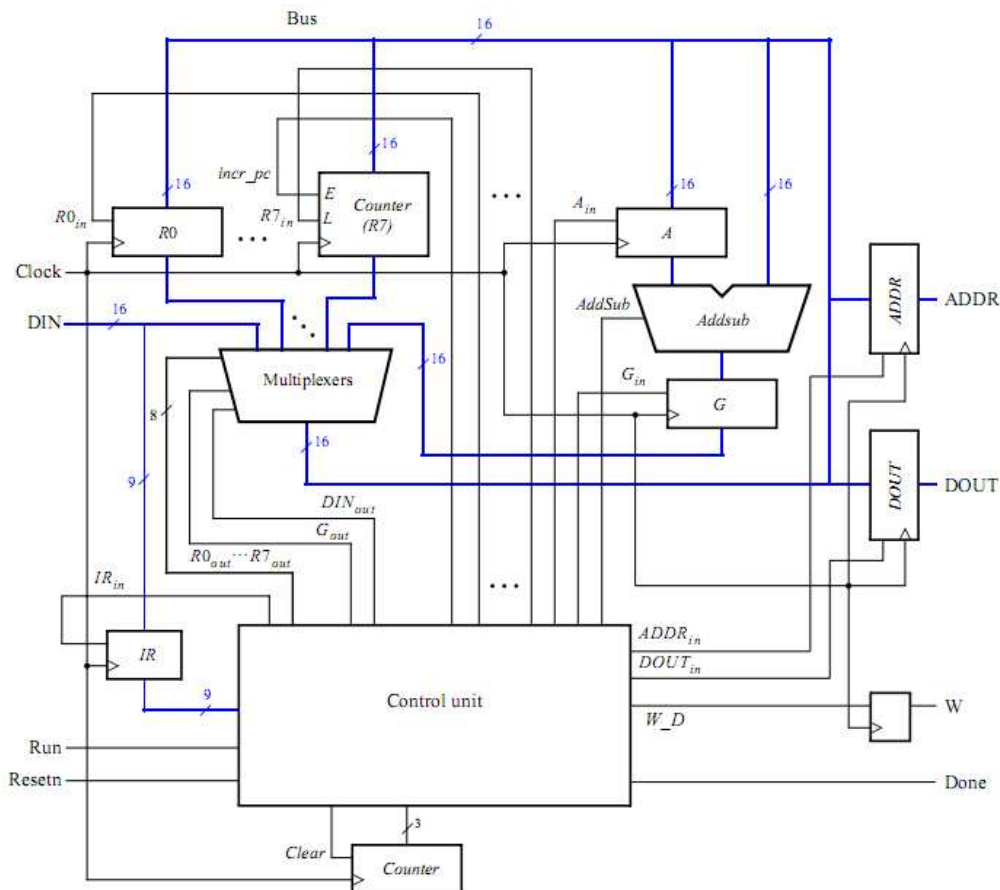

Figure 7. An enhanced version of the processor.
A schematic of the enhanced processor is given in Figure 7. In this figure, registers *R₀* to *R₆* are the same as in Figure 1 of Laboratory Exercise 9, but register *R₇* has been changed to a counter. This counter is used to provide the addresses in the memory from which the processor's instructions are read; in the preceding lab exercise, a counter external to the processor was used for this purpose. We will refer to *R₇* as the processor's program counter (PC), because this terminology is common for real processors available in the industry. When
Figure 7 shows two registers in the processor that are used for data transfers. The ADDR register is used to send addresses to an external device, such as a memory module, and the DOUT register is used by the processor to provide data that can be stored outside the processor. One use of the ADDR register is for reading, or fetching, instructions from memory; when the processor wants to fetch an instruction, the contents of PC (R7) are transferred across the bus and loaded into ADDR. This address is provided to memory. In addition to fetching instructions, the processor can read data at any address by using the ADDR register. Both data and instructions are read into the processor on the DIN input port. The processor can write data for storage at an external address by placing this address into the ADDR register, placing the data to be stored into its DOUT register, and asserting the output of the W (write) flip-flop to 1.